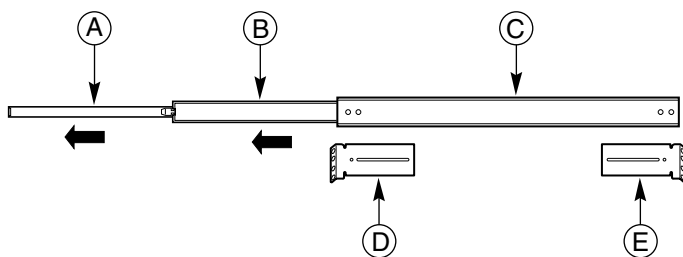

Figure 1 Slide Assembly Fully Extended
As shown in Figure 1, each of the two slide rail assemblies contains three moving parts: the inner member, the intermediate member, and the outer member.
The slide rail kit contains four EIA brackets. Two brackets are labeled FL/RR. One is connected to the front left (FL) of the slide assembly; the other is connected to the rear right (RR). The remaining two brackets are labeled FR/RL. One is connected to the front right (FR) of the slide assembly; the other is connected to the rear left (RL). Figure 1 shows where the brackets are attached to the slide rail assembly.
At this point, you have removed the inner member from the slide assembly. The outer and intermediate members comprise the slide assembly. Note the location of the brackets in Figure 1.